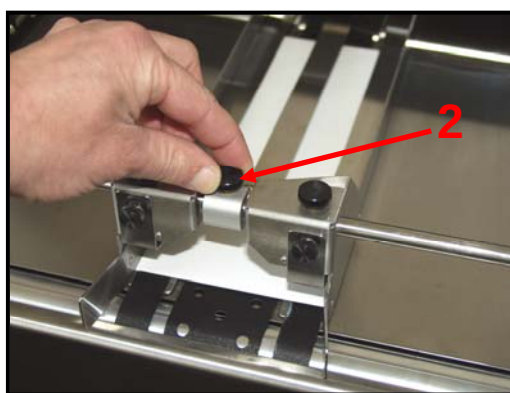

Figure 18
4. Position the Media Hold-Down Strap [2] so that it helps hold the media down, as shown in Figure 18.